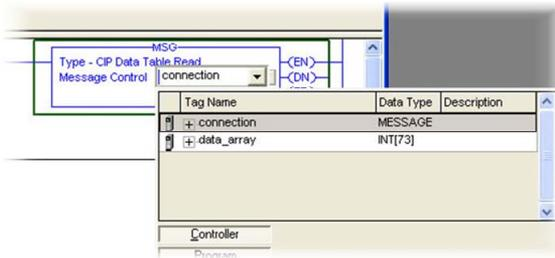

Figure 87: MSG Instruction Tag Assignment
- a) Edit the "Message Control" field on the MSG instruction to use the previously-created "connection" tag. Refer to Figure 87.